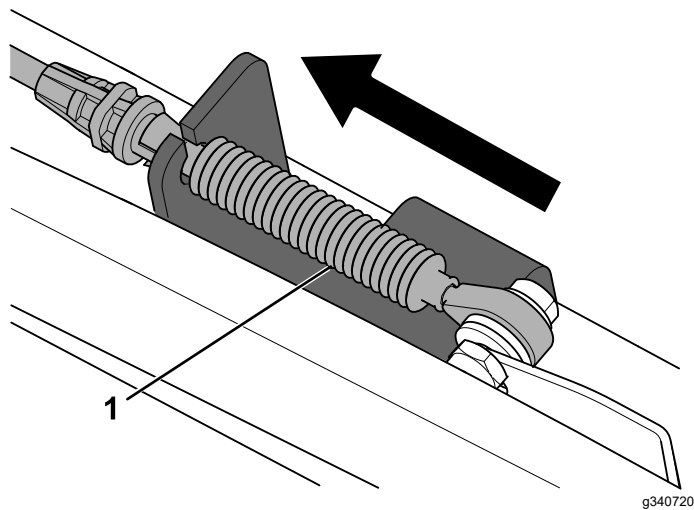

Figure 14
10. Slide the bracket forward so that the cable is tight (Figure 14).